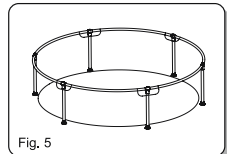

Fig. 5
6. Test frame to ensure all connections are secure before filling with water. (Fig.5)